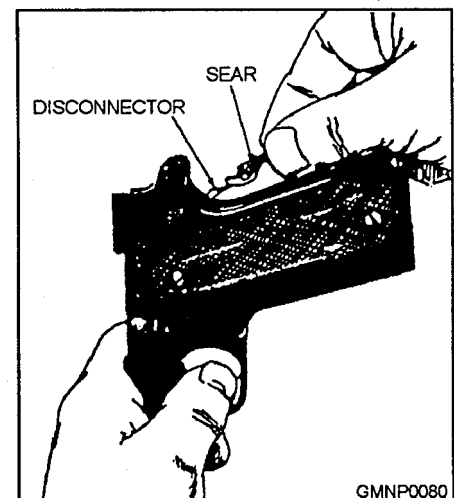

Figure 3-6.—Replacing the sear and disconnecter.
2. Place the sear and disconnecter in as one unit, fitted together, as shown in figure 3-6.